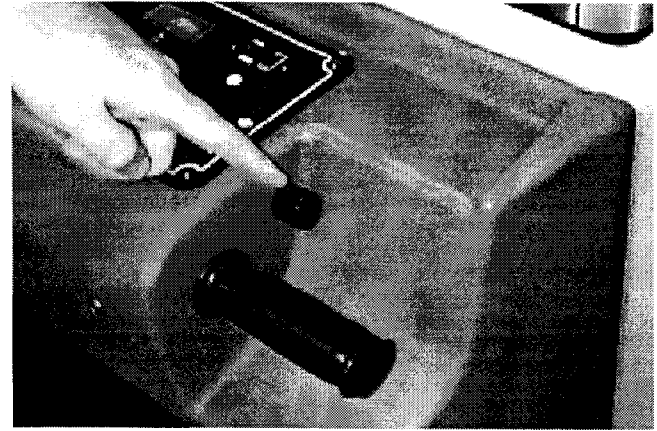

FIG. 12.
4. Before starting off, rotate speed control knob completely backwards. (Figure 12)